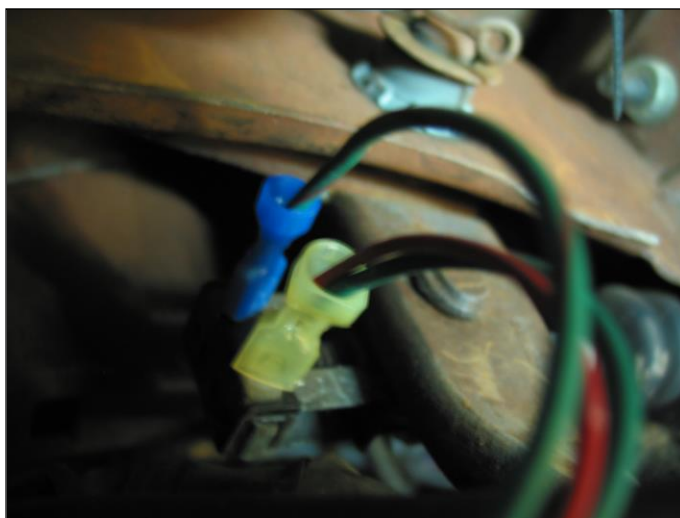

Figure 7-17 Brake Switch
7.9.1 Route the BRAKE SWITCH wires #917 Brake Switch B+ (Grn/Red) and #918 Brake Switch Output (Grn) over the steering column and down to the Brake Switch located on the brake pedal. Leave enough slack in the wires to allow for the brake pedal movement. These wires **are not** polarity specific, in other words it does not matter which wires goes onto each side of the switch. **See Figure 7-17.**